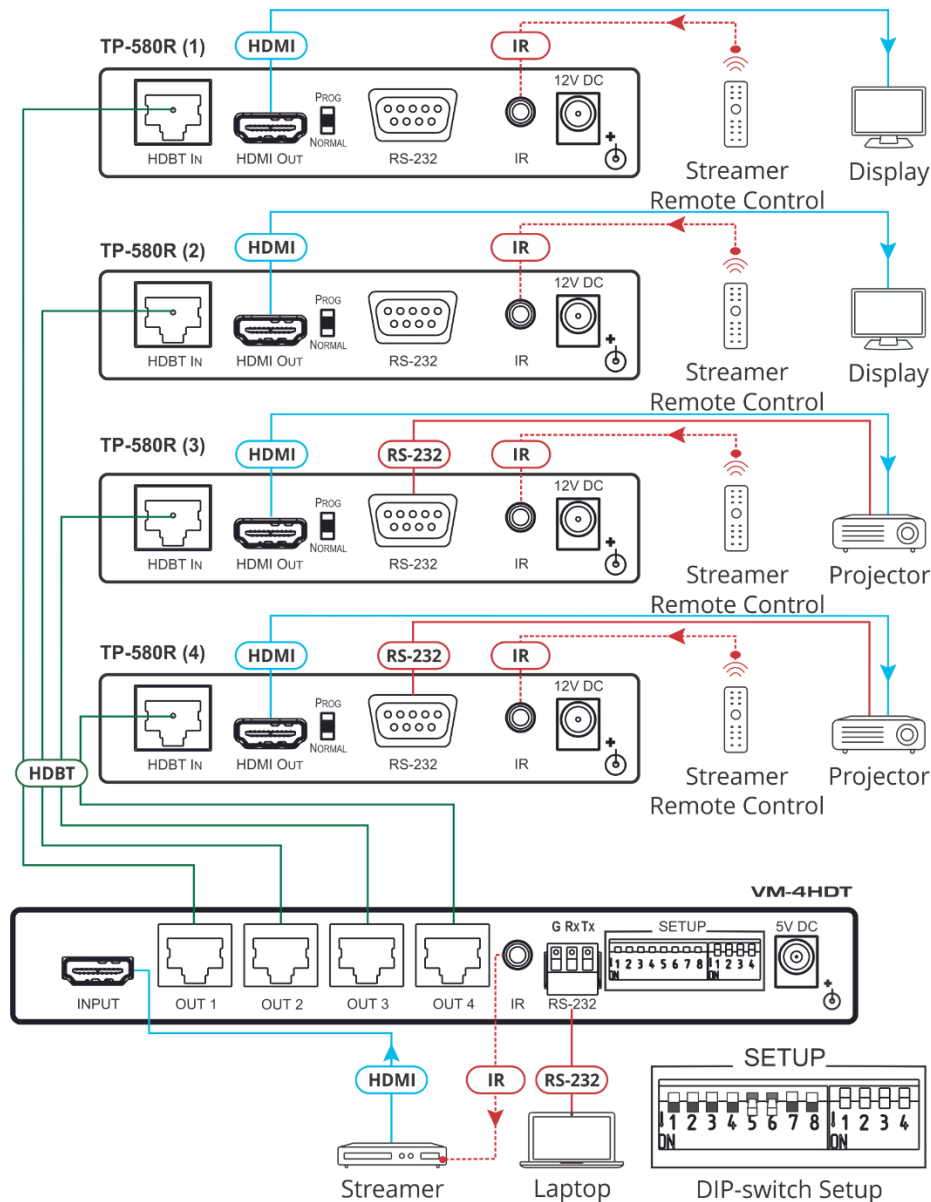

Figure 9: IR/RS-232 Routing Example
The example in Figure 9 shows the **VM-4HDT** connected to four **TP-580R** devices. The table below summarizes the types of connections:
In the same way, if RS-232 is also connected to the displays on **TP-580R (1)** and **TP-580R (2)** (not shown in Figure 9) they can also receive specific control commands each, which will be ignored by devices of a different model.